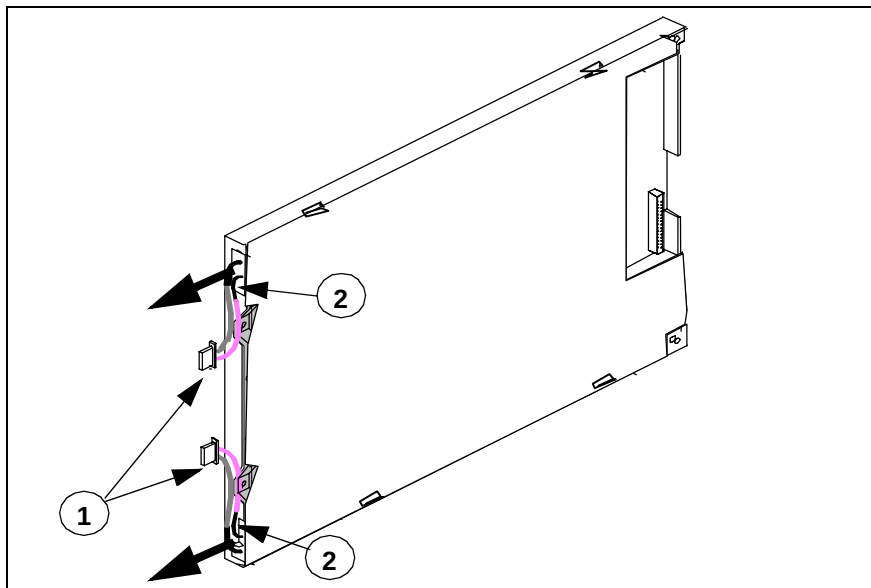

Figure 3-13 Display Screen Subassembly
- **Backlight Lamps** (see Figure 3-13 on page 54)
- 5) Unplug backlight connectors (① in Figure 3-13 on page 54) from front bezel PC board, and lift subassembly out of frame.
- 6) Using very small screwdriver, depress black nub on latch of each backlight lamp holder (located at ② in Figure 3-13) to release latch, and draw backlight lamps out of display screen subassembly in direction of heavy arrows in Figure 3-13.